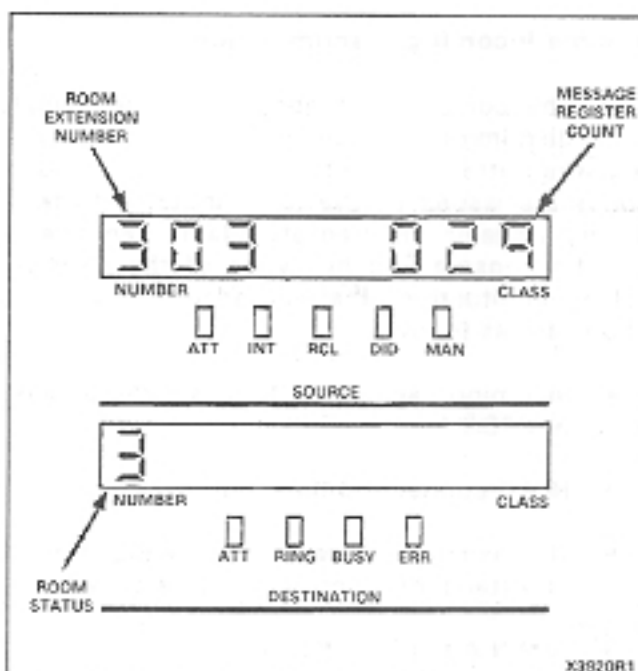

Fig. 5-1 Typical Status Display
ROOM button and dialing the room number. Fig. 5-1 shows a typical room display with status "3", indicating that the room is vacant but requires cleaning. If a period (.) appears after the status code, it indicates that a maid is currently in the room. Having pressed the GUEST ROOM button and dialed a room number, the attendant can update the room status by dialing a special code (see Table 5-1). This also provides the attendant with a view of a room's status when viewing the Room Status field, after pressing the GUEST ROOM button and dialing an extension.
number and message "count" is displayed in the SOURCE display. The "count" can be read on checkout for charging purposes; then under the same conditions the register is cleared by pressing the "#" button. Fig. 5-1 illustrates a typical display of this facility showing the room number (303), the message register total (29) and the room status (3 - indicating that the room is vacant but requires cleaning).
- (1) The room number and the "MESSAGE REGISTER" status (see Fig. 5-1) in the SOURCE display.
Attendant uses GUEST ROOM button and dials room number to obtain a DESTINATION display (see 5.04 and Fig. 5-1); digits 1-4 are shown, with a period (.) if the maid is in the room.